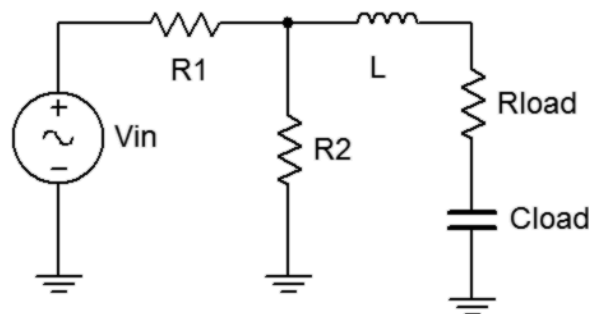

Figure 11.3
6. To verify that Thevenin's Theorem also works with an inductive source and a complex load, repeat steps 1 through 5 in like manner but using figure 11.3 with  $R_1=1.5\ \text{k}\Omega$ ,  $R_2=2.2\ \text{k}\Omega$ ,  $L=10\ \text{mH}$ ,  $R_{\text{load}}=1\ \text{k}\Omega$  with  $C_{\text{load}}=.1\ \mu\text{F}$ . Set the generator to a 10 kHz sine wave at 2 V p-p. Record results in Tables 11.3 and 11.4.